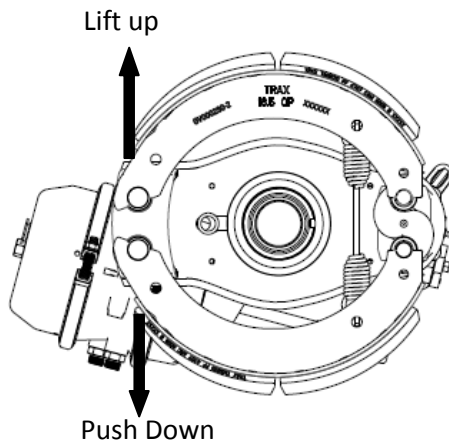

Figure 3.4
2. Push down on the bottom brake shoe and disengage it from the anchor pin. Move the bottom brake shoe to the outboard side of the brake spider (Figure 3.4).